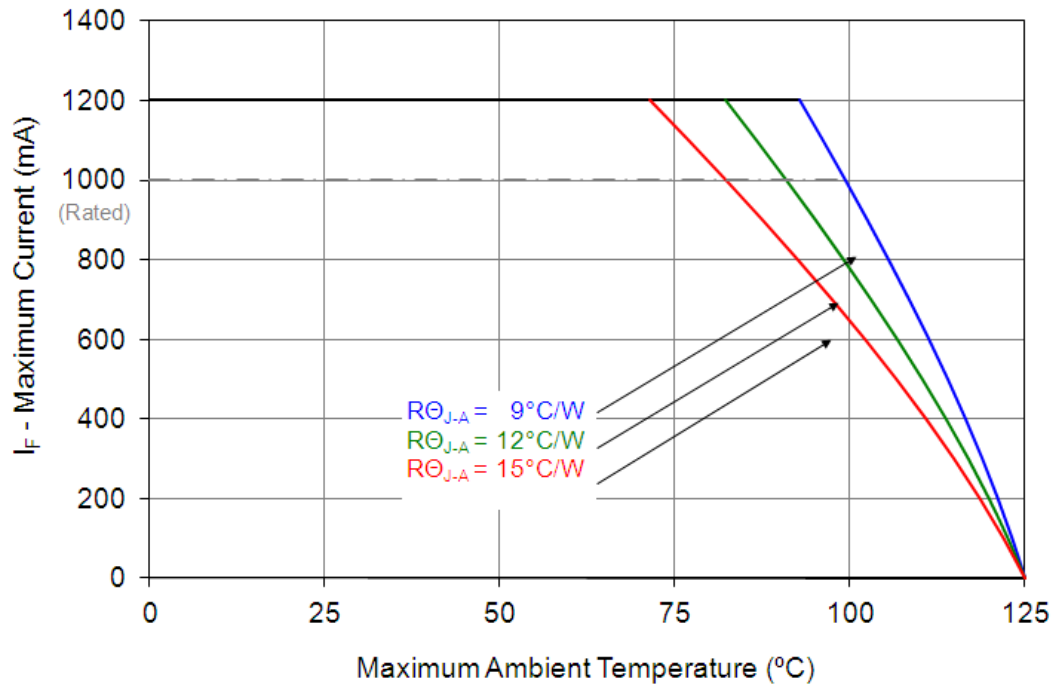

Figure 11: Maximum forward current vs. ambient temperature based on $T_{J(\text{MAX})} = 125^{\circ}\text{C}$.
- Maximum DC forward current is determined by the overall thermal resistance and ambient temperature. Follow the curves in Figure 11 for current derating.
Notes for Figure 11: